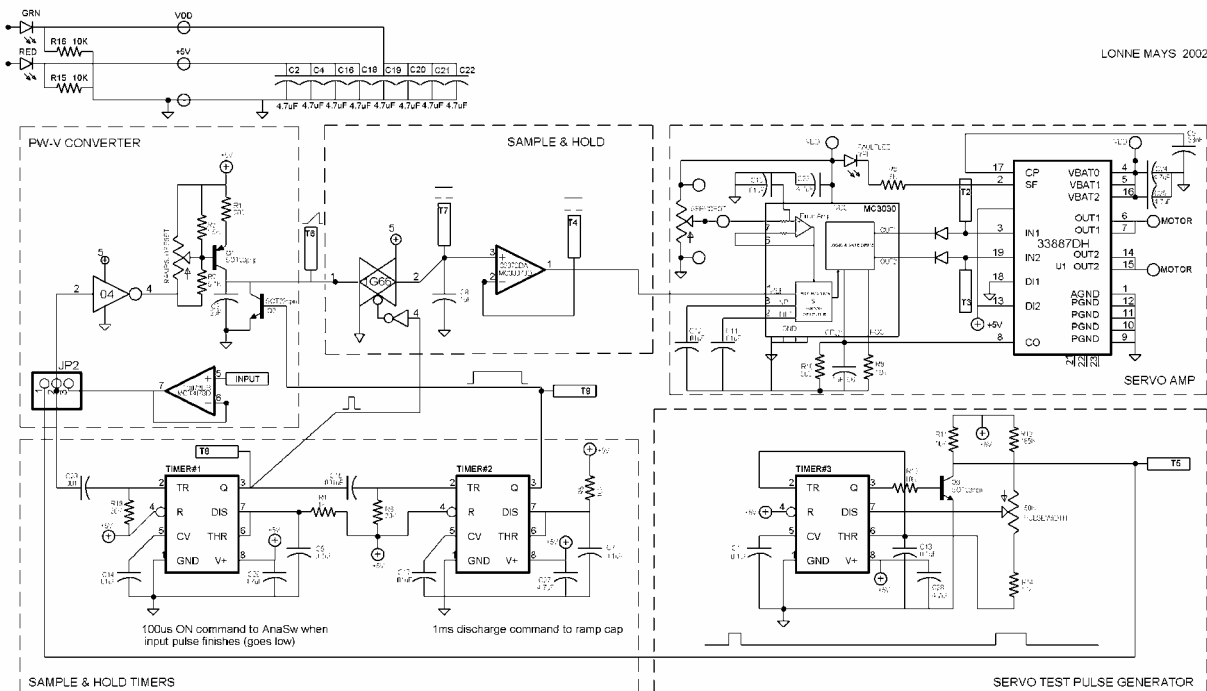

Figure 1. High Torque Servo Motion Control Schematic
Towards the end of keeping this a totally hardware-oriented article, this design example takes a sans-micro approach to tackle the task of converting a standard radio control (RC) pulse width coded signal into a high speed *and* high torque servo response. Referring to Figure 1, High Torque Servo Motion Control Schematic, note that there are five functional areas to the design. In the following paragraphs and figures we will focus on the function and operation of each area delineated on the schematic, beginning with the "SERVO AMP".